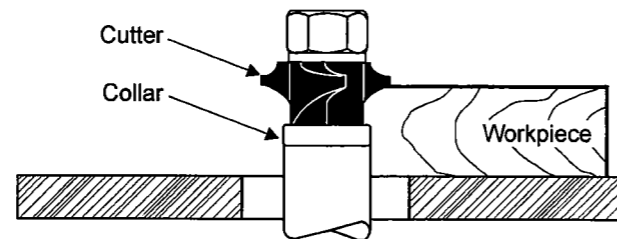

FIGURE 22
1. When the collar is used below the cutter, as shown in Figure 22, the progress of the cut can be seen throughout the operation. However, any accidental lifting of the work will gouge the wood and ruin the workpiece.